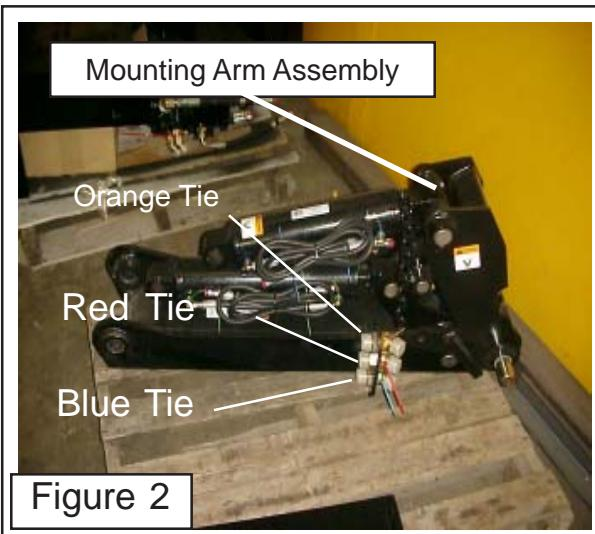

Figure 2
1. Connect Hoses to the Mounting Arm Bulkhead. The Mounting Arm has a bulkhead fitting lug welded on to on the rear side. These lugs are color coded with a plastic tie on the bulkhead fitting (See Figure 2).